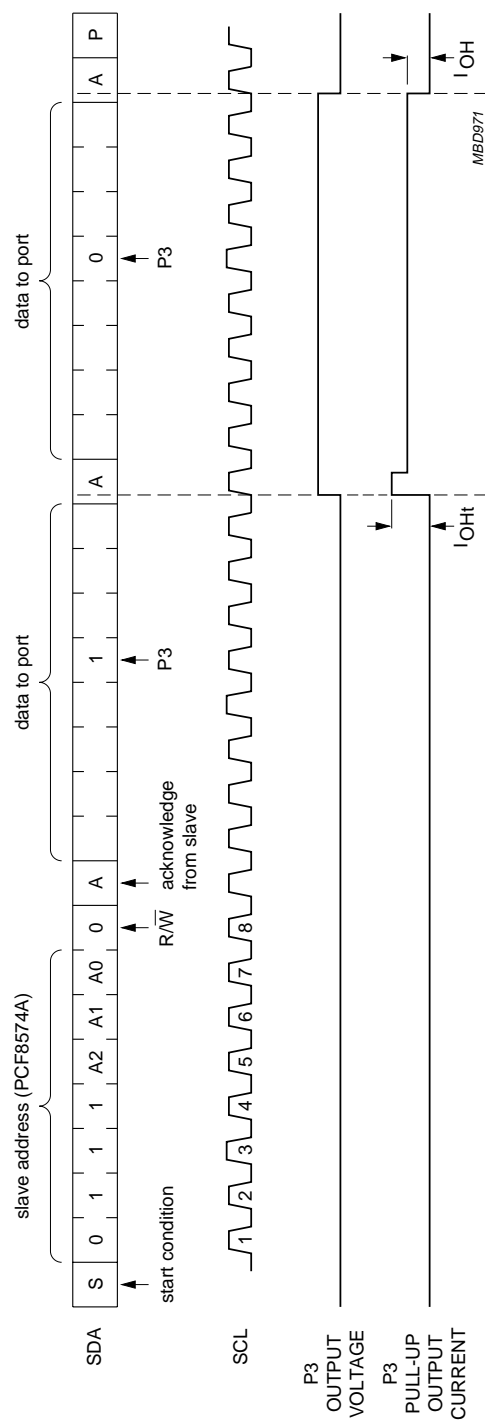

Fig. 14 Transient pull-up current I_{OHt} while P3 changes from LOW-to-HIGH and back to LOW.
7.3 Quasi-bidirectional I/Os (see Fig.14)